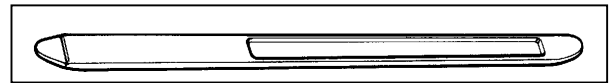

Fig.3
**#10001418 Bead lifting tool** (Fig.3).